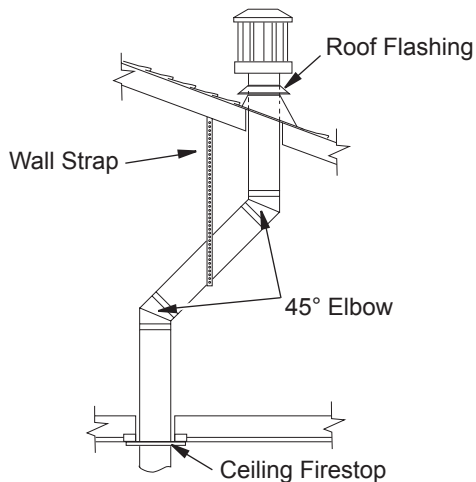

Figure 19 - Offset with Wall Strap and 45° Elbows
1. Determine the route your vertical venting will take. If ceiling joists, roof rafters or other framing will obstruct the venting system, consider an offset (see Figure 19) to avoid cutting load bearing members. **Note:** Pay special attention to these installation instructions for required clearances (air space) to combustibles when passing through ceilings, walls, roofs, enclosures, attic rafters, etc. Do not pack air spaces with insulation. Also note maximum vertical rise of the venting system and any maximum horizontal offset limitations.
Note: If an offset is needed to avoid obstructions, you must support the vent pipe every 3 feet. Use wall straps for this purpose (see Figure 19). Whenever possible, use 45° elbows instead of 90° elbows. The 45° elbow offers less restriction to the flow of the flue gases and intake air.
5. Place the flashing over the pipe section(s) extending through the roof. Secure the base of the flashing to the roof and framing with roofing nails. Be sure roofing material overlaps the top edge of the flashing as shown in Figure 19. There must be a 1" clearance from the vent pipe to combustible materials.